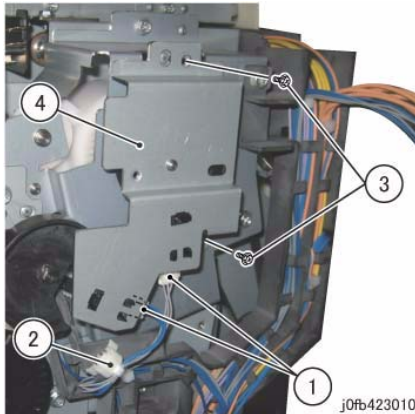

Figure 3 Remove the Bracket
6. Remove the bracket. (Figure 3)